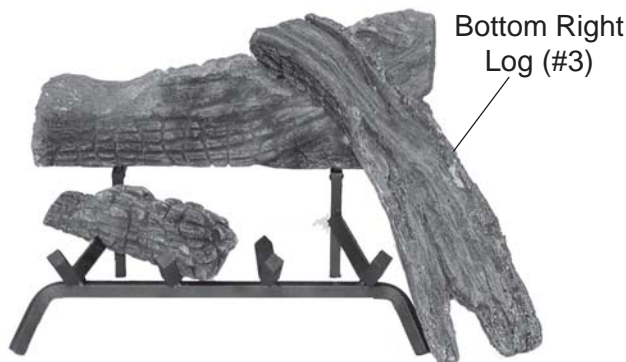

Figure 70 - Placing Bottom Right (#3) Log on Grate
4. Place end of Bottom Right Log #3 on cutout of back log #1. Rest other end of right bottom log to the outside of right grate prong. *See Figure 70.*